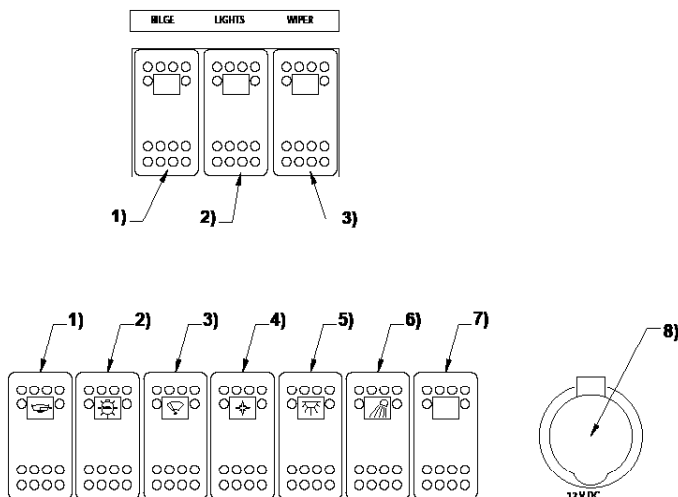

Figure 4 1) Bilge pump operating switch 2) Navigation lights switch
- 6) Switch panel (see Figure 4)
Controls and electronic equipment switches are positioned as shown in Figure 4: